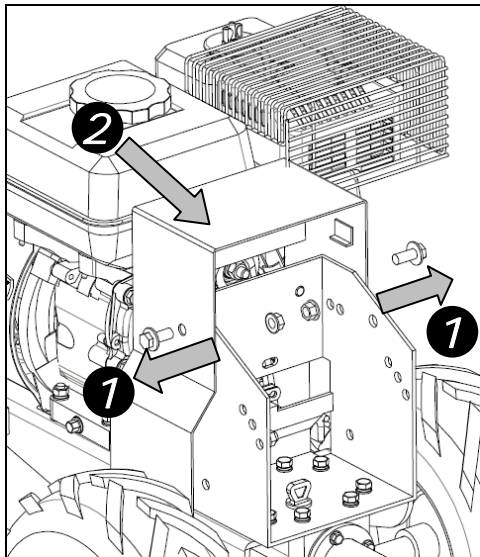

Fig.12
1. Screw out the bolt ①(Fig.12) of the belt housing frame. Disassemble the belt cover ②(Fig.12).